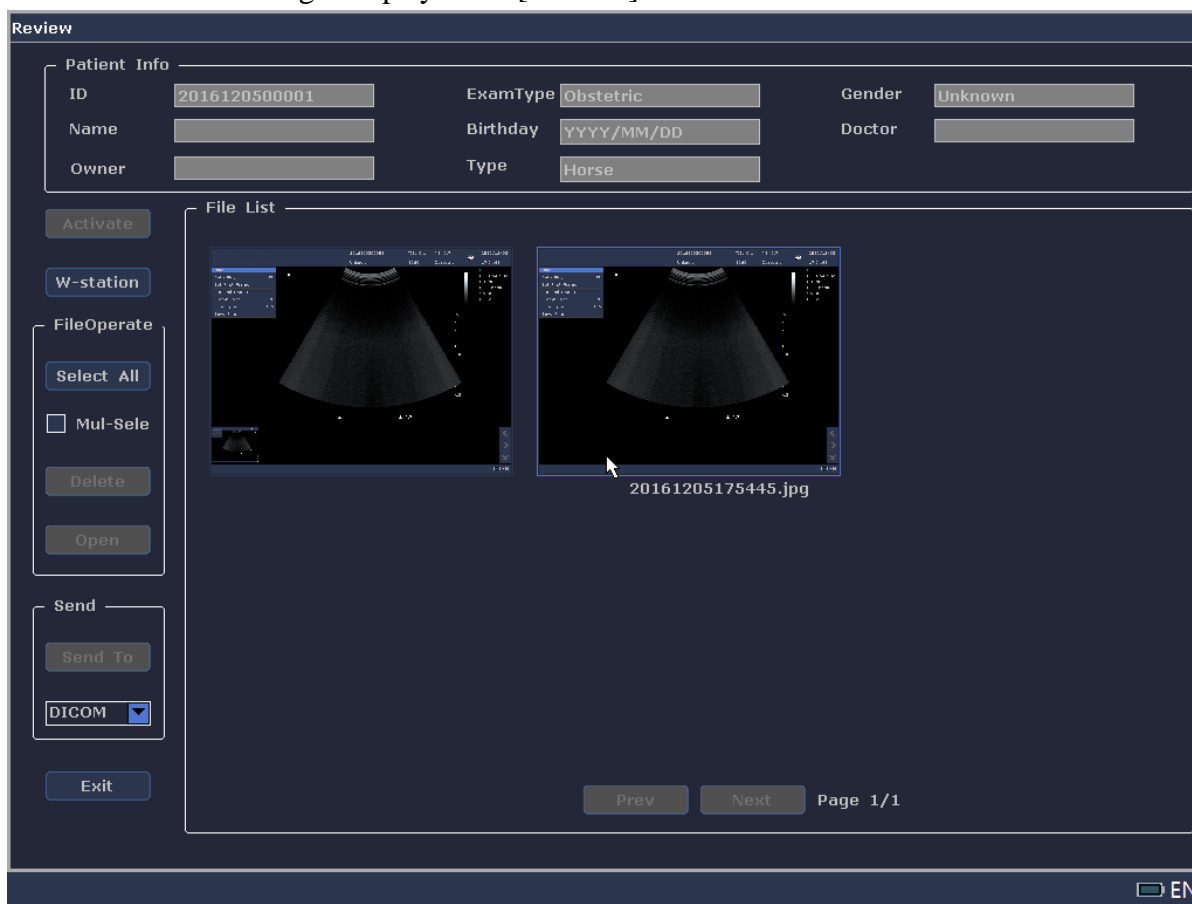

Figure 12-1 Review Screen
1. Press the **Review** key on the control panel to enter the Review screen, as shown in Figure12-1. The thumbnail images display in the [File List].